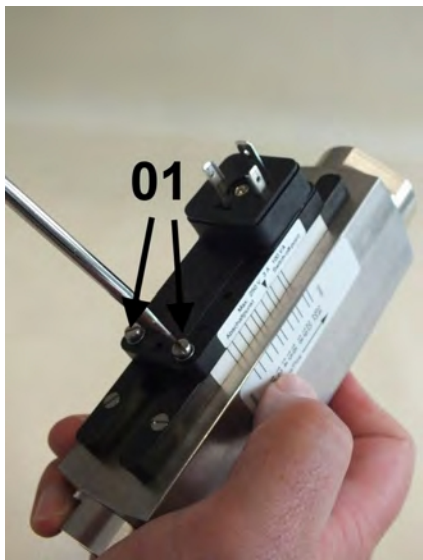

Fig. 61: Loosen set screws
3. Using a flat-bladed screwdriver (Fig. 61/01) loosen the set screws of the switch contact until it can move freely
11. ▶ Retighten the set screws (Fig. 61/01) observing the proper tightening torque of the screws (↳ Chapter 11.1 "Tightening torque" on page 80)